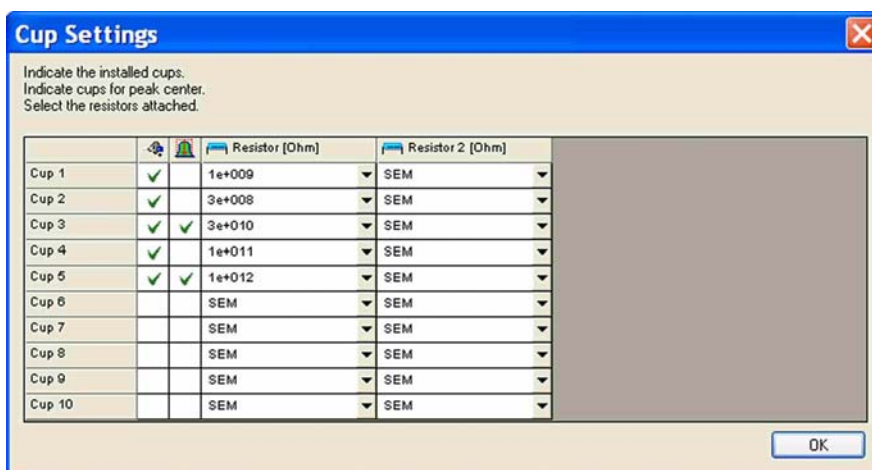

Figure 3-3. Cup Settings window
4. In the Cup Settings window (See Figure 3-3.), do the following: